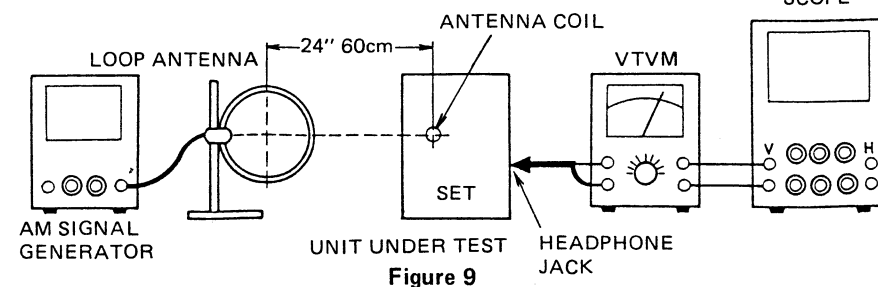

Figure 9
3. Using the test loop across the output of the signal generator, inductively connect the signal generator to the radio. (Figure 9)